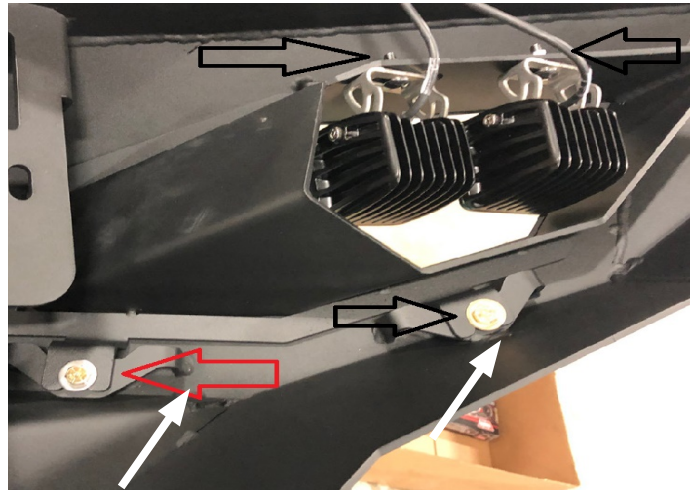

Figure 5
5. Using a 1/2" socket wrench, install the light boxes (21857 and 21858) onto the bumper by inserting the tabs into the slots and bolting it down with the provided 5/16"-18 bolts, 5/16" lock washers and 5/16" flat washers on both sides of the vehicle (50177-HW). (Figure 5). Please note that some versions of this bumper do not require a second lower mount (red arrow).